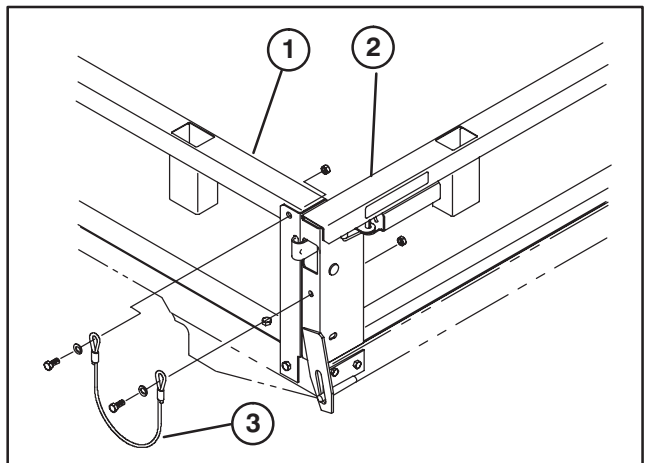

Figure 8
17. Using mounting holes shown in figure 8, secure a lanyard to each end of front panel and ends of side panels with (2) 5/16–18 x 7/8” lg. capscrews, flat washers and flange (Toplok) locknuts. Do not overtighten capscrews as lanyard must be free to rotate during operation.